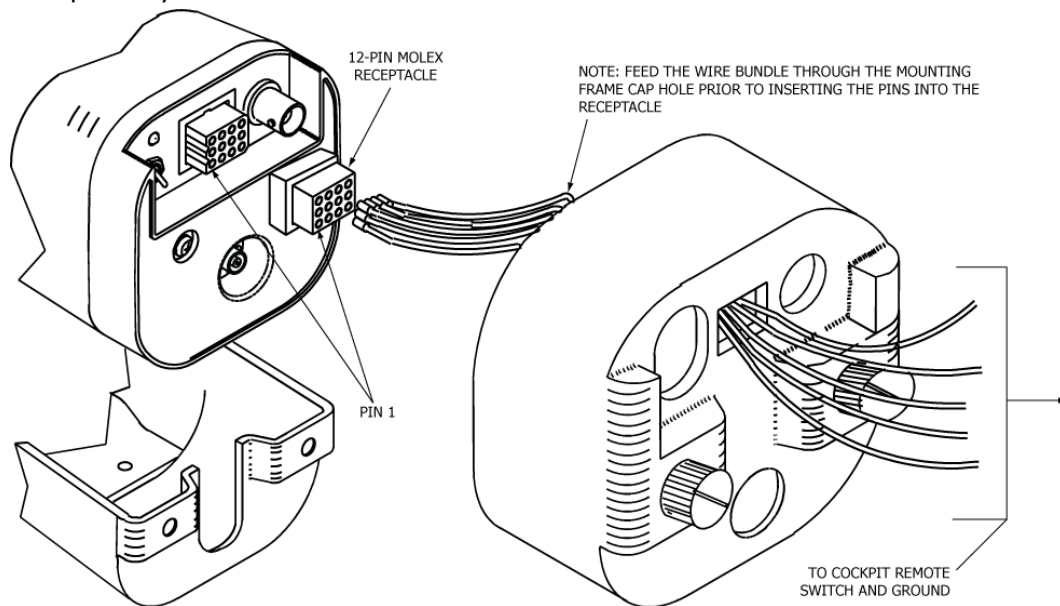

Figure 23 Remote Harness Wiring at ELT End
- 1) Feed the harness wires on the ELT end through the mounting frame cap assembly (452- 5052). See Figure 23 on page 51.